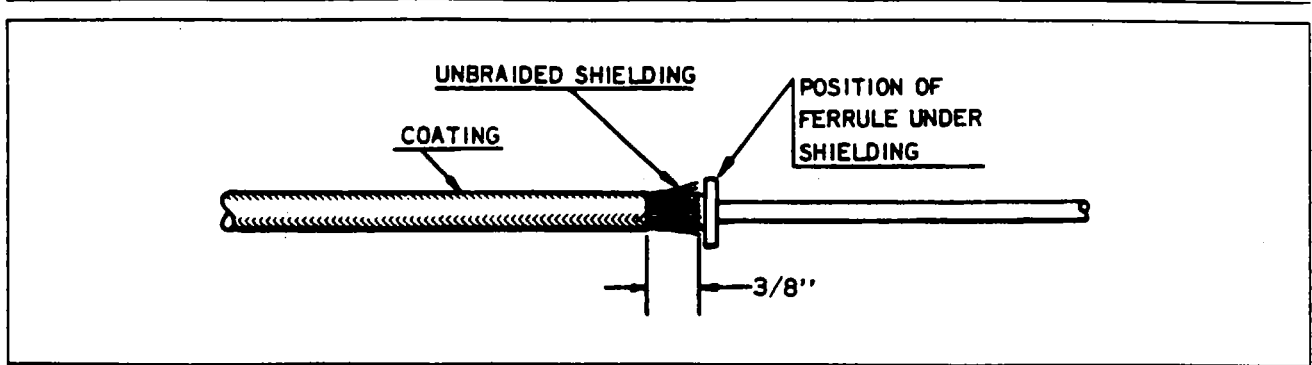
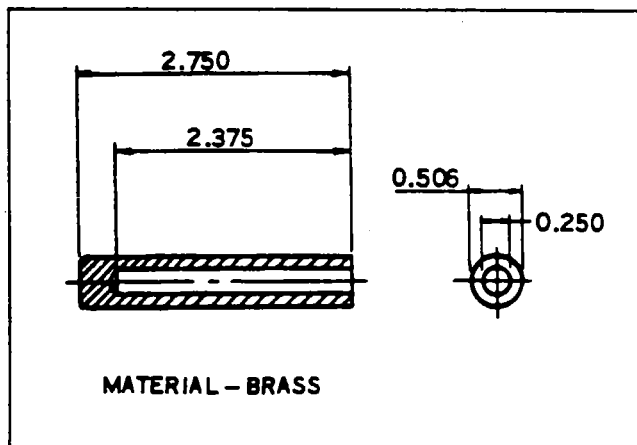

Figure 8-26. Forming Shielding Around Ferrule
Figure 8-27. Ferrule Seating Tool
11. Pass the taped end of new lead through hole in outlet plate. Remove electrical tape from lead and install tapered end of ferrule under the unbraided strands of shielding. Form strands of shielding evenly around tapered ferrule as shown in Figure 8-26 and pull lead assembly back through cable outlet plate until ferrule binds in the outlet well. Position the Scintilla 11-7074 Ferrule Seating Tool (Figure 8-27) over the wire and firmly seat the ferrule by tapping the seating tool with a hammer or by using an arbor press.